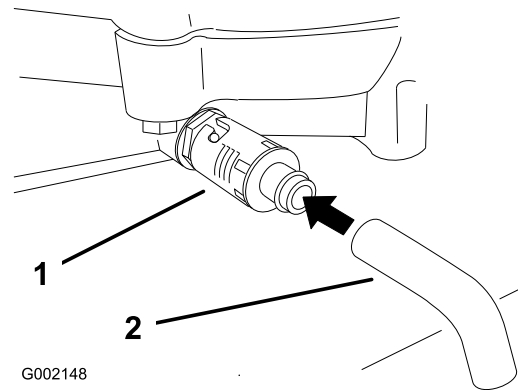

Figure 29
5. Place a pan below the drain. Rotate oil drain valve to allow oil to drain (Figure 29).